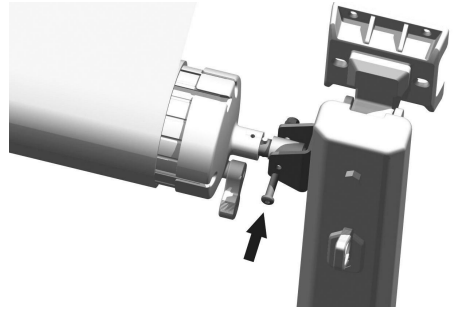

Figure C16
3.6 Wrap the fabric in the same direction onto the roll tube, leaving one circle untouched, and thread the fabric into the vehicle's fabric rail(Figure C15), fix the shaft hole at the end of the roller to the top bracket of the support rod (Figure C16).